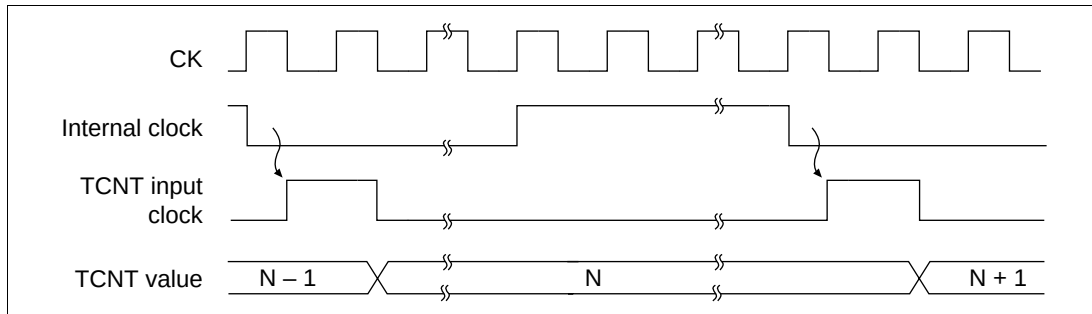

**Figure 10.17 Count Timing for Internal Clock Sources**
Internal clock source: Bits TPSC2–TPSC0 in TCR select the system clock (CK) or one of three internal clock sources ( $\phi/2$ ,  $\phi/4$ ,  $\phi/8$ ) obtained by prescaling the system clock. Figure 10.17 shows the timing.